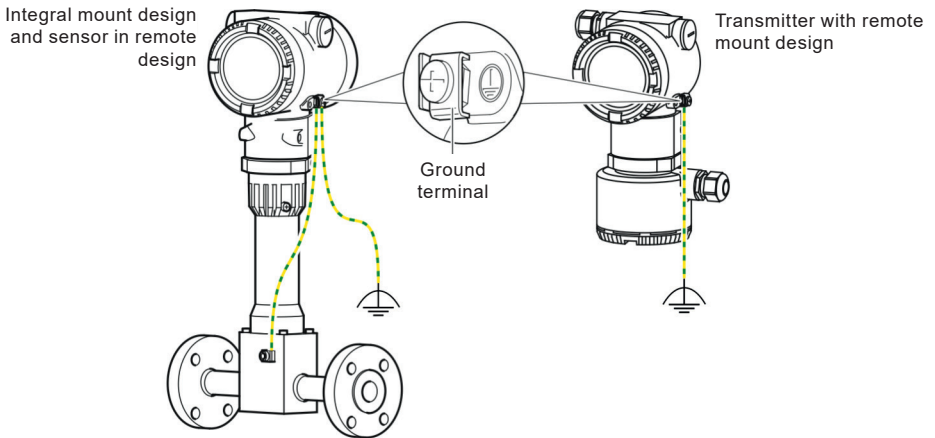

Fig. 20 Ground Terminals
For the earthing (PE) of the transmitter or the connection of a protective earth, a connection is available both on the exterior of the housing and in the connection space. Both connections must be galvanically connected to one another. To avoid potential differences, a 3-point grounding as shown in Figure 20 is recommended. These connection points can be used if grounding or the connection of a protective conductor is prescribed by national regulations for the selected type of supply or the type of protection used.